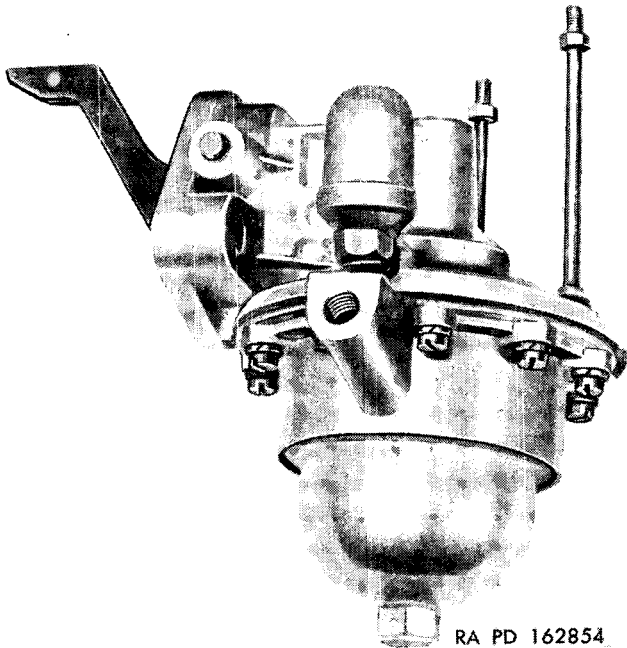
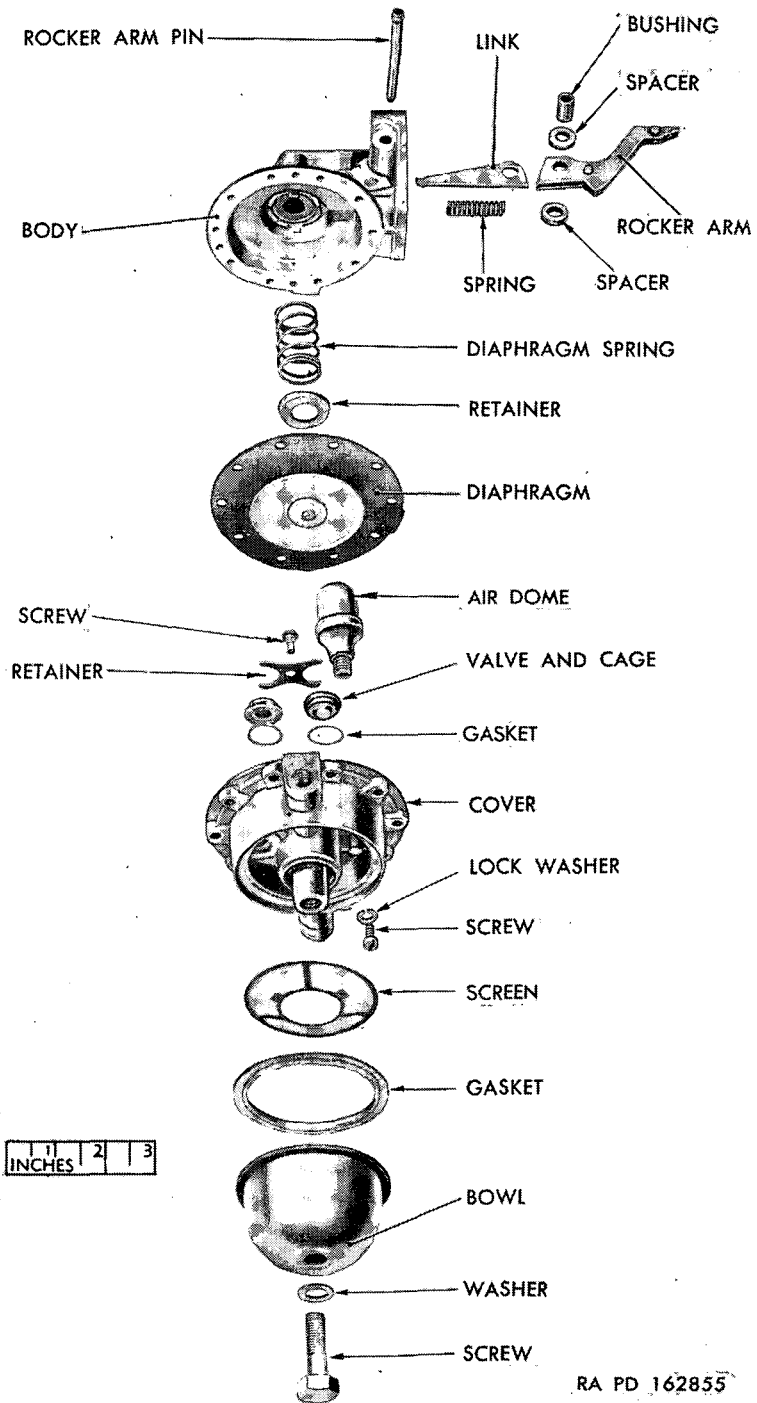

Figure 28. Fuel pump, series AH and AW.
Figure 29. Fuel pump—disassembled (typical series AH and AW construction).
- (1) Mark edges of top cover and body (fig. 29) of series AH and AW fuel pump (fig. 28) with a file. Mark at heat shield stud, if used. The parts may then be assembled in the same relative positions and heat shield stud properly located.
- (2) Remove cover screws and lock washers. Also remove heat shield stud, if used. Separate cover from body by jarring cover loose with a light plastic hammer.
a. Assemble Body (fig. 29).
- (1) Make an assembly of rocker arm and link with bushing. If used, assemble one spacer on each end of bushing. Place assembly of rocker arm and link in body with link hook down.